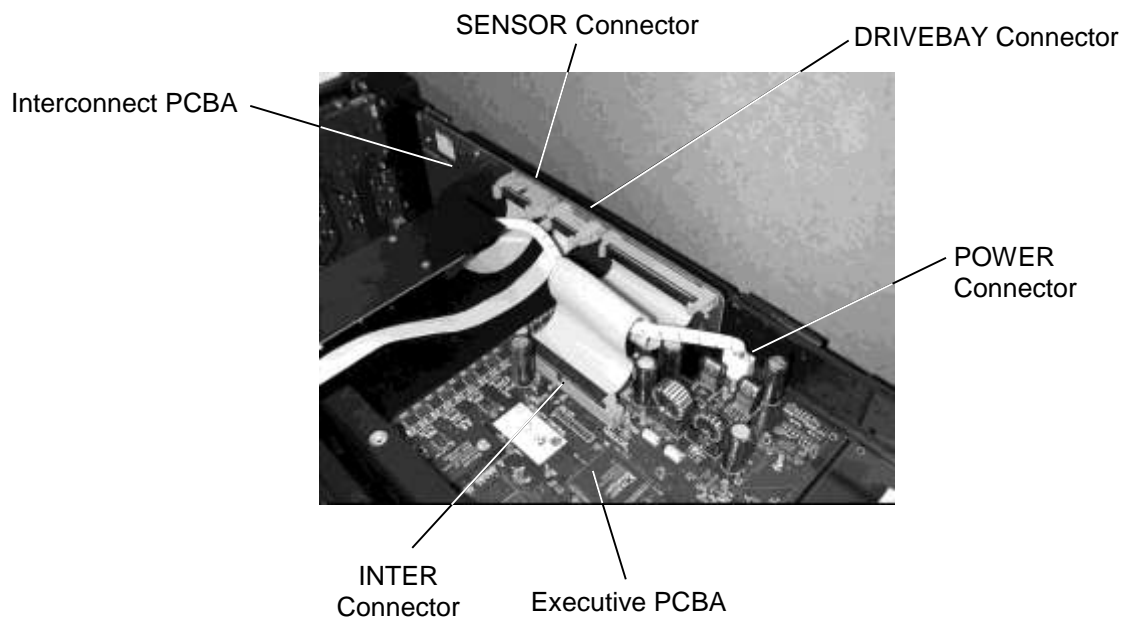

Figure 7-31 The Executive and Interconnect PCBA Connectors
7. Disconnect the INTER and POWER connectors from the Executive PCBA. See Figure 7-31.
3. Reconnect the SENSOR and DRIVEBAY connectors to the Interconnect PCBA. See Figure 7-31.
4. Reconnect the INTER and POWER cables to the Executive PCBA (Figure 7-31).